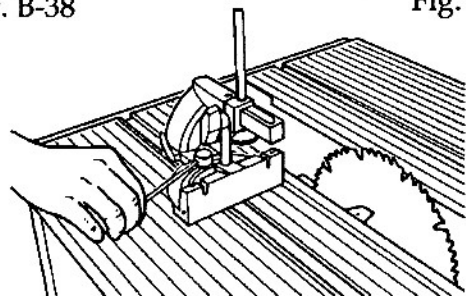

Fig. B-40
39. Use a 5/32" Allen wrench to loosen the miter gauge knob, as shown in Fig. B-40.